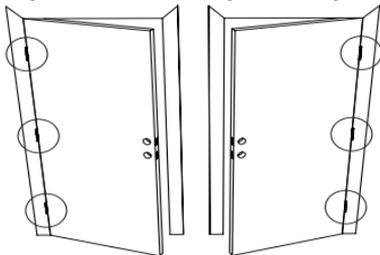

Figure 2a
- If the hinges are on the left your door is Left Handed (Figure 2a).